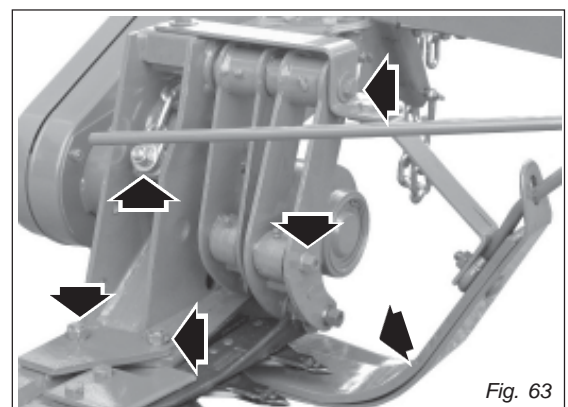

Fig. 63
- Check the tightness of the connecting rod bolts regularly (Fig. 63).